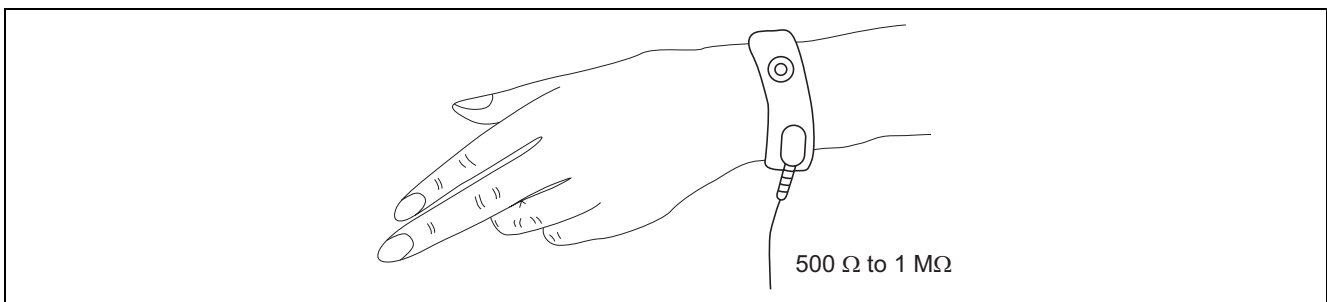

Figure 1 Ground
- b. Ground the operator's body by wearing a wrist band as shown in figure 1, and connect it to the same potential as the power supply ground line.